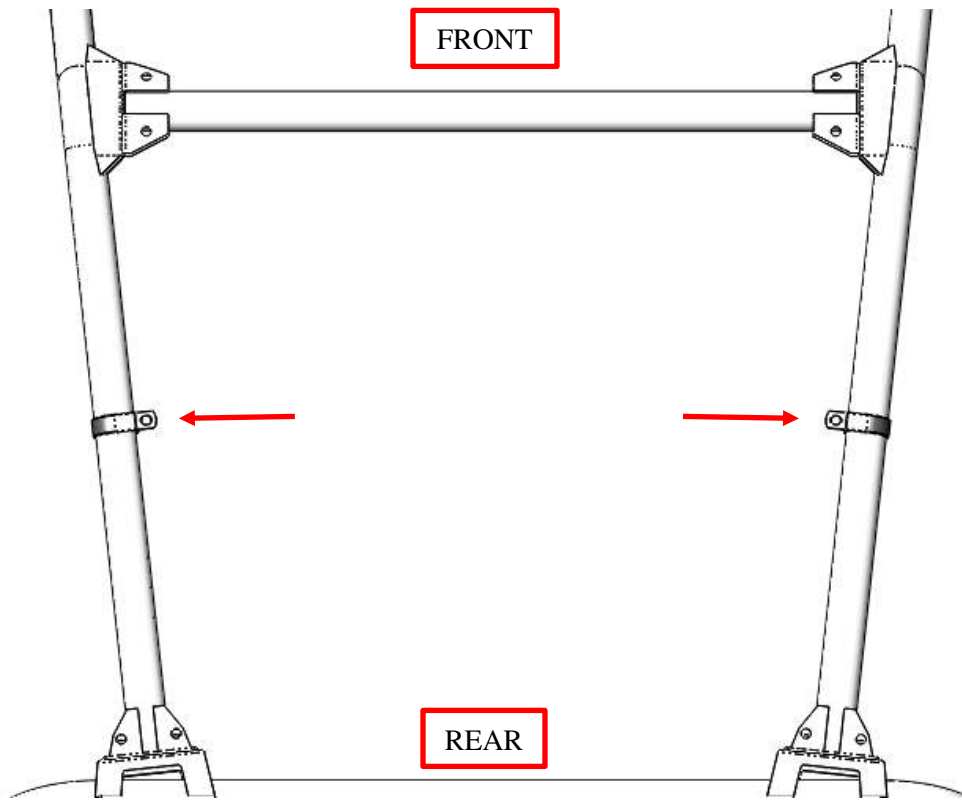

Figure 4: Approximate locations of the loop clamps.
3. Place the provided loop clamps in the approximate mounting locations on the outside roll bars. The *Audio Mini* brackets will rest on the loop clamps and be tightened in the following steps. See Figure 4.